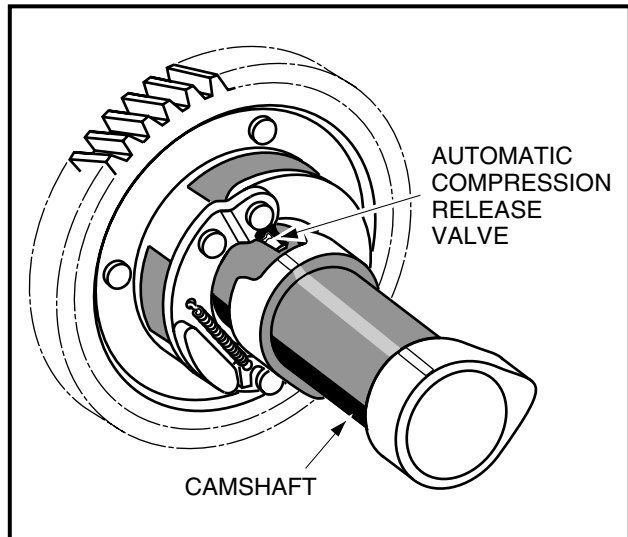

Figure 13-51 ACR Valve Inspection
- **Key-Start Engines:** FE350 and FE400 engines have an automatic compression release valve (ACR) that is activated during the starting procedure (**Figure 13-51, Page 13-26**). As the engine is cranked at a normal 550 to 600 RPM, the ACR opens and reduces compression in the cylinder, allowing the starter to turn the engine with a minimal amount of starter energy, and helping to reduce starter/generator brush wear. A tapping noise will be heard while the ACR is in an open condition. It is normal for the ACR to click, or tap, during normal cranking RPM. When the engine starts and accelerates to 700 RPM, the ACR will close, the tapping noise will stop, and full compression will be reached. After the engine starts, it will idle at 1150 to 1200 RPM.